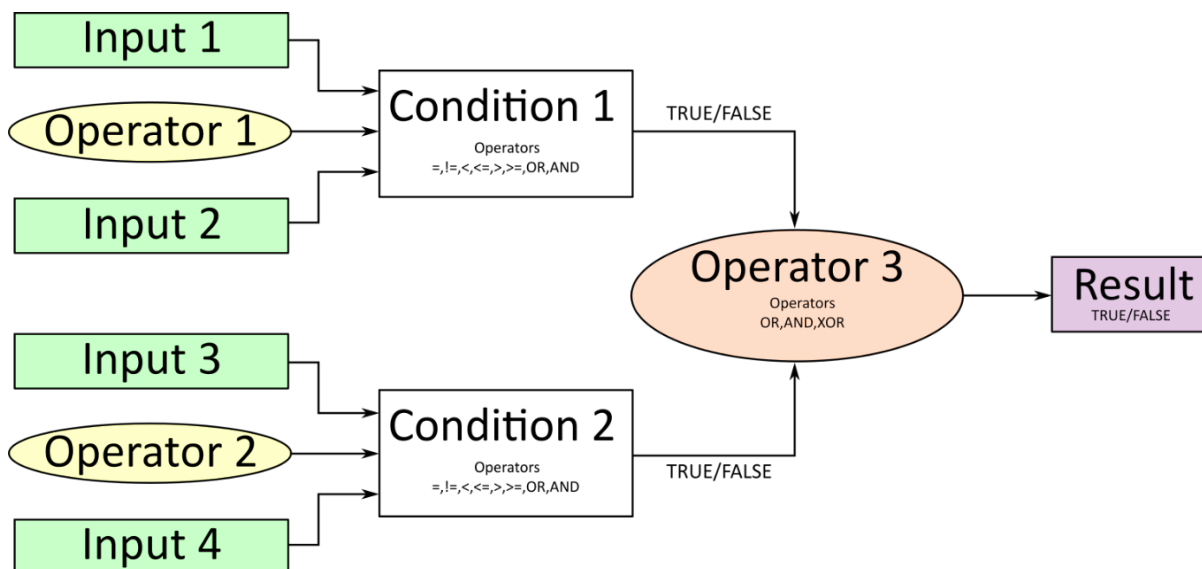

Figure 3 – Conditional Block Diagram
Conditional Logic Blocks compare up to four different input sources with different logical or relational operators. The result of each block can therefore only be true (1) or false (0). Figure 3 demonstrates the connections between all parameters.